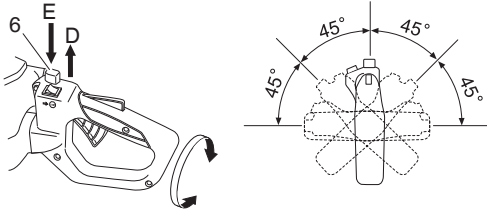

Fig. 7
- **Multi-position twist handle (Fig. 7)**